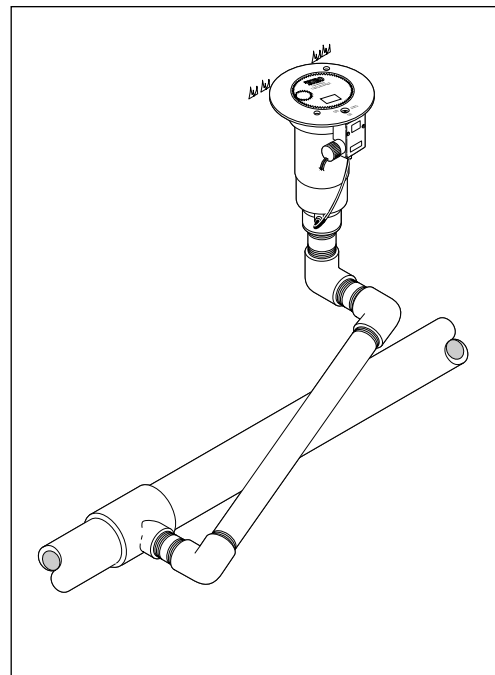

Figure 1 — Triple Swing Joints
1. Construct or provide triple swing joints for each sprinkler as shown in **Figure 1**. Use PVC or ABS pipe nipple for sprinkler connection.